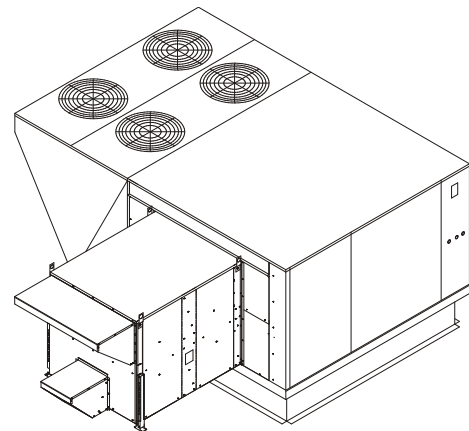

Figure 14
**Note:** *The ERS unit is equipped with a support block that must be removed to allow the unit to change operating modes. This block may cause damage to system if not removed. See Figure 14.*
7. Check and seal, if necessary, along the edges where the ERS meets the rooftop unit to ensure there is no air leakage. Final assembly should resemble **Figure 14.**